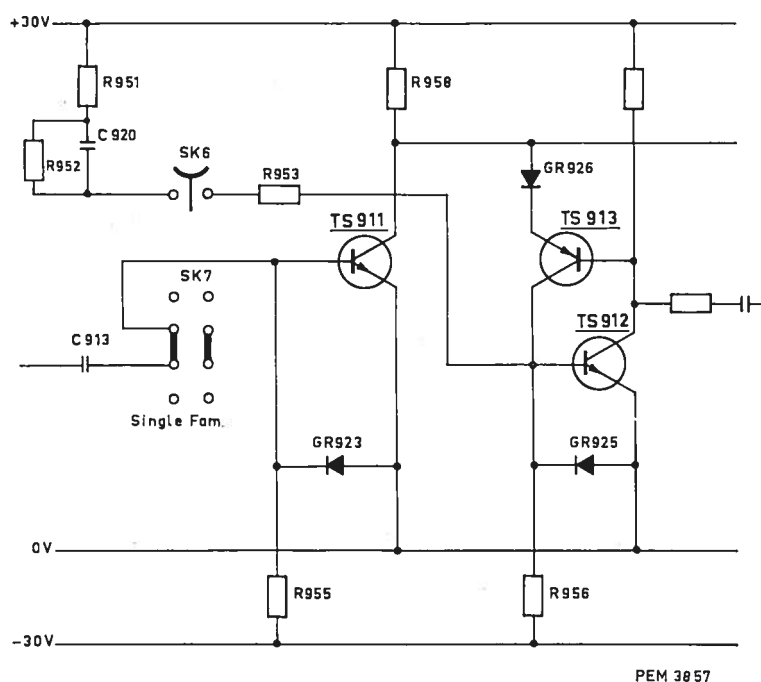

Fig. 55b. Switch position SINGLE FAM
b. In case of trigger mode "SINGLE FAM." the circuit is as shown in Fig. 55b.